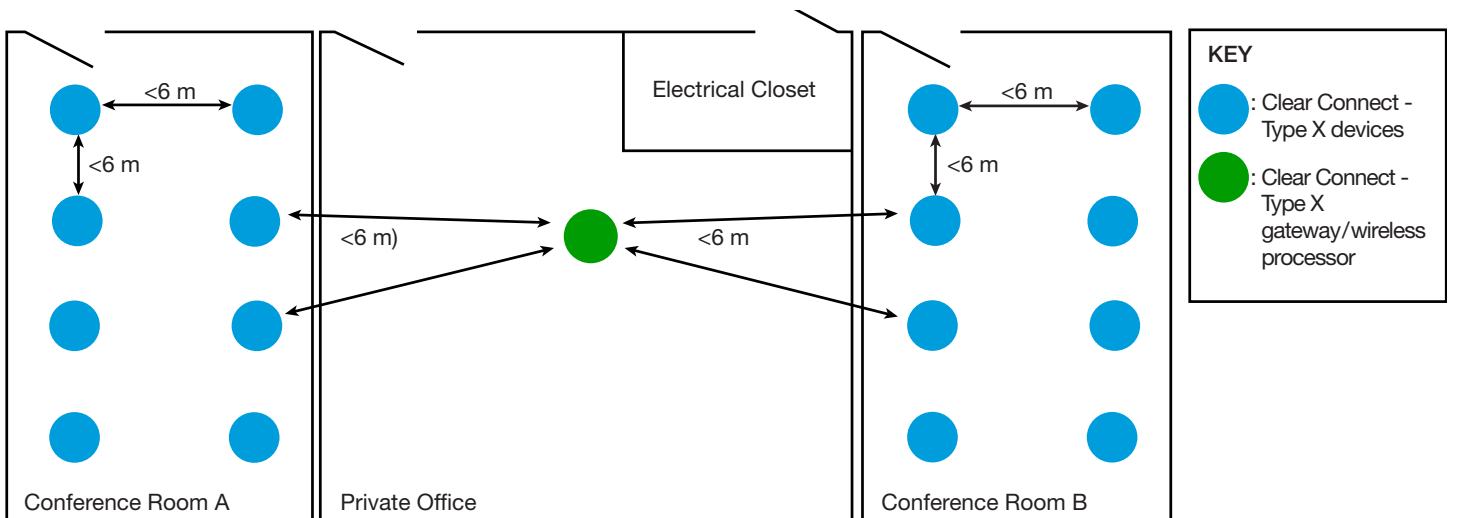

Figure 6 - Solution 2 Where the gateway/wireless processor is placed between the two groups of devices.
- Solution 2 (refer to Figure 6):** Place a gateway/wireless processor in between the two conference rooms such that it is within 6 m of at least two devices in each conference room.